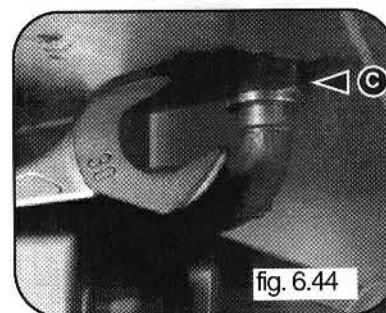

fig. 6.44
- 6 Release the top nut "C" using a 30 mm open ended spanner (see fig. 6.44);